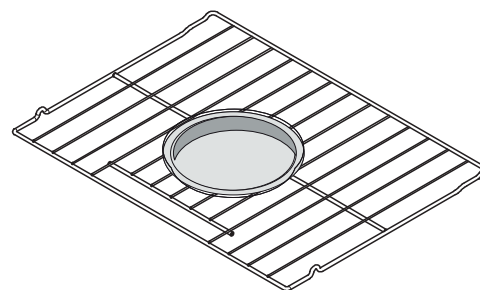
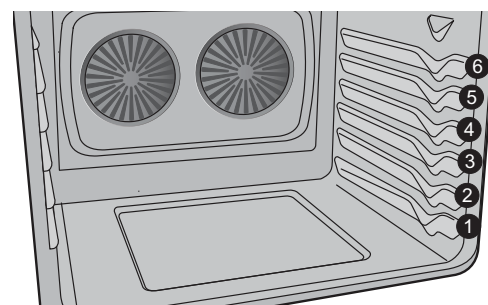

Figure 11: Single rack baking for convenience foods--place food towards front of oven rack.
Figure 12: Oven rack position (3) best for cooking convenience foods
- Always place food in center of the oven on rack position 3 (Figure 12). Place the food as shown in Figure 11.